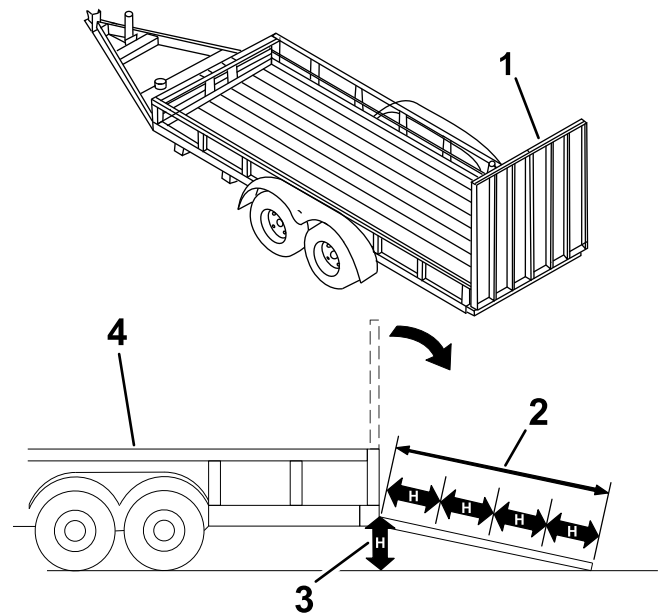

Figure 17
**Loading a machine onto a trailer or truck increases the possibility of tip-over and could cause serious injury or death (Figure 17).**